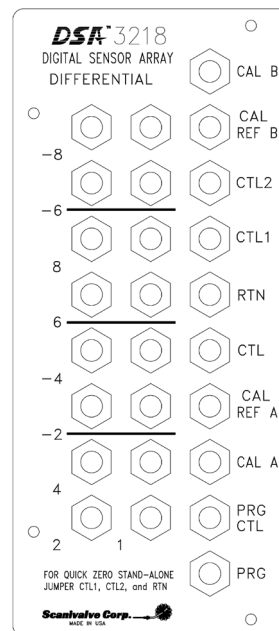

FIGURE 2.10 - DSA3218/8DPx DIFFERENTIAL TOP PANEL
For differential pressure measurement applications, the DSA3218 can be configured with eight (8) differential pressure transducers. They are arranged into two (2) groups of four (4) transducers. Like the DSA3218/16Px, each group of transducers has a dedicated calibration valve. Figure 2.10 depicts the top panel of a DSA3218/8DPx module.